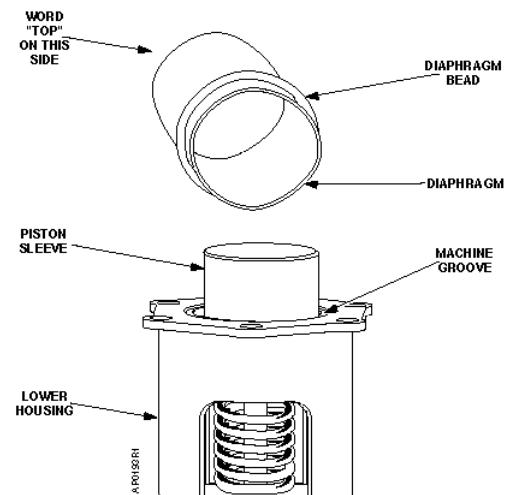

Figure 10.
5. Fold the new diaphragm the same way with the word "TOP" on the diaphragm surface toward the air chamber. See Figure 10.